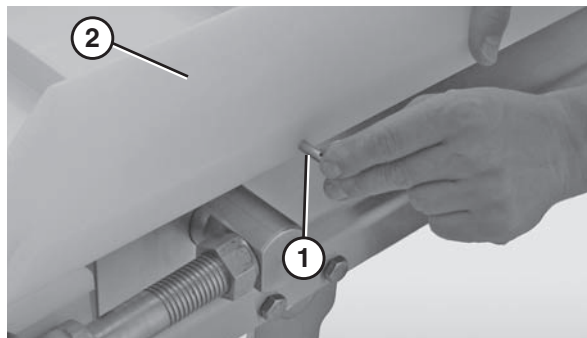

Figure 35
1. Remove the guides, if applicable, by removing the pull pins (**Figure 35, item 1**) that connect the guide (**Figure 35, item 2**) to the frame.